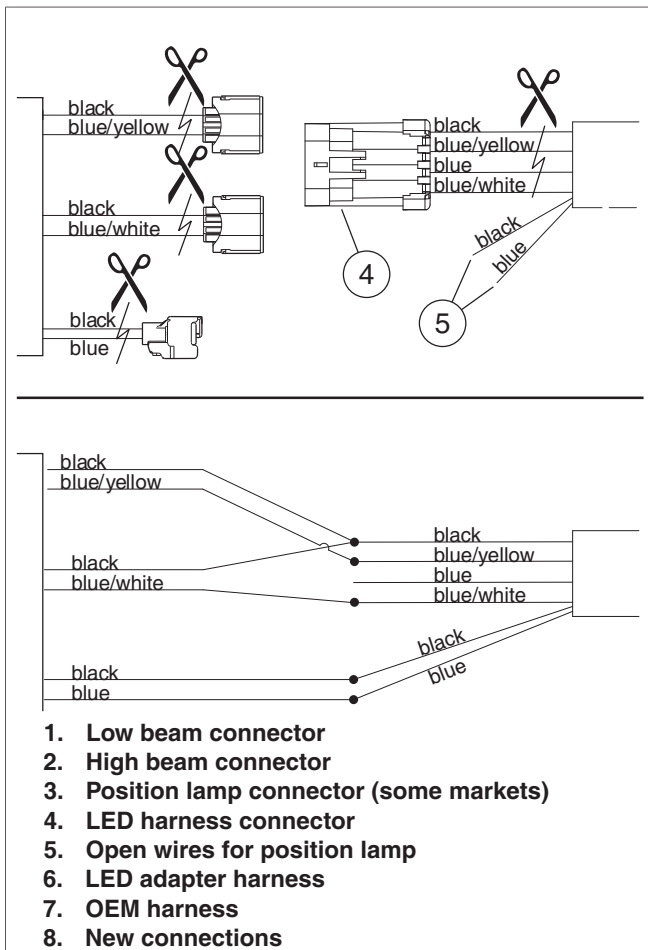

Figure 1. Reconfigure Harness: Road King FLHR/C
2. See Figure 1. Cut off connector (4) from the adapter harness.
3. **HDI models:** Refer to 2 open wires (5). If the original headlamp was not equipped with a position lamp, secure the open 2 wires.
4. See Figure 1. Strip and splice the wires following the sealed splice connector procedure in the service manual.
- b. Use the blue splice connectors for the 16 ga wires that were cut from connector (4).